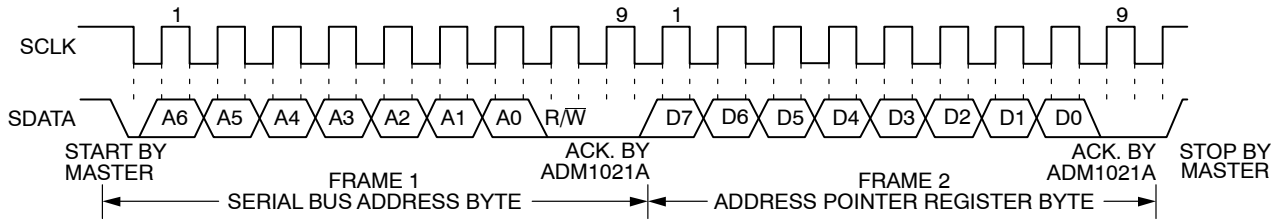
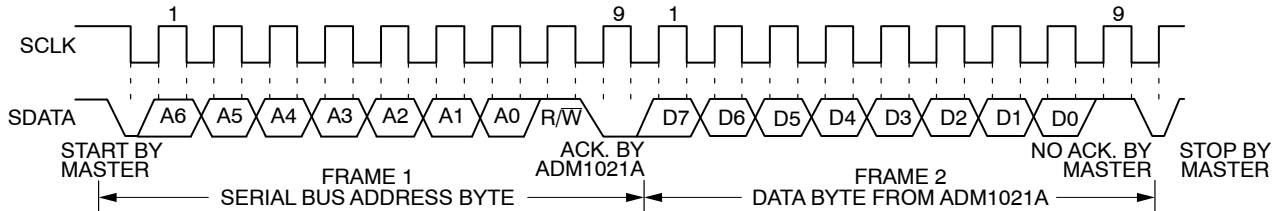

Figure 15. Writing to the Address Pointer Register Only
Figure 16. Reading Data from a Previously Selected Register
1. If the ADM1021A's address pointer register value is unknown or not the desired value, it is first necessary to set it to the correct value before data can be read from the desired data register. This is done by performing a write to the ADM1021A as before, but only the data byte containing the register read address is sent, because data is not to be written to the register. This is shown in Figure 15. A read operation is then performed consisting of the serial bus address,  $R/\overline{W}$  bit set to 1, followed by the data byte read from the data register. This is shown in Figure 16.
2. If the address pointer register is known to be already at the desired address, data can be read from the corresponding data register without first writing to the address pointer register, so Figure 15 can be omitted.